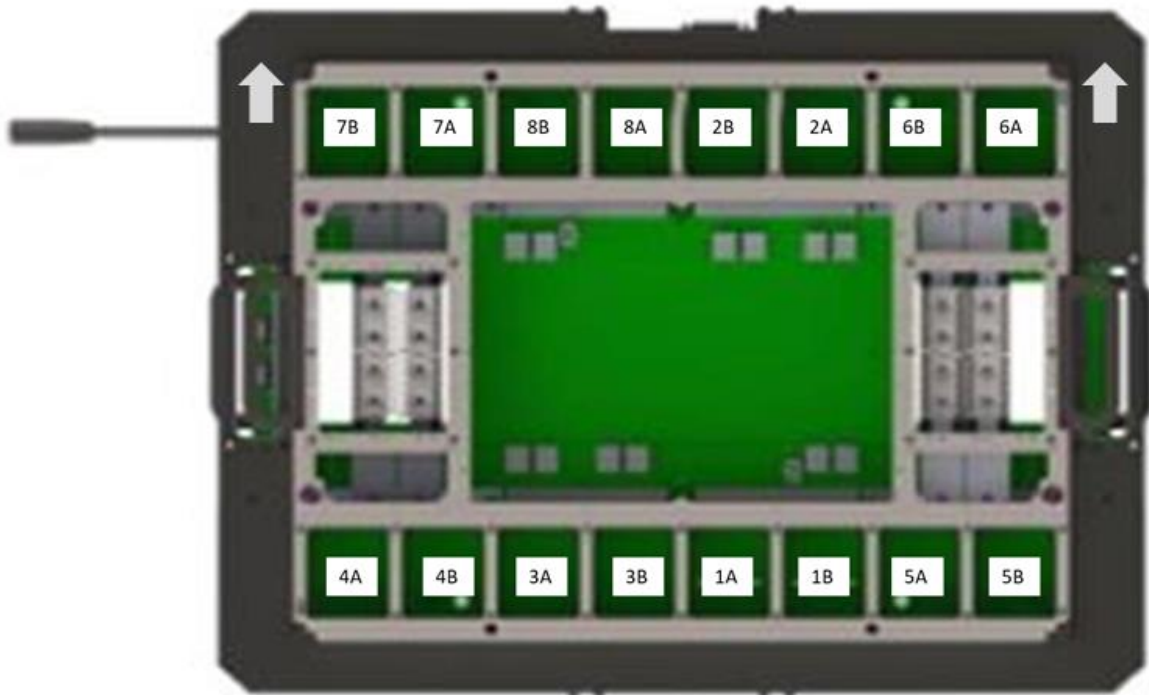

Figure 3: (Top View) AT93000 system
The Family board’s function is to deliver the Advantest V93K testhead resources through the HSIO Card Cage, via the pogo block groups 1A through 8B, up to the DUT loadboard. The 16 HSIO card cage cavities around the perimeter of the AT93000 system are labeled in Figure 3. Any number of these 16 cavities will be populated with a Pogo Block.
Referring to **Figure 3**, Groups 7B,7A,8B,8A,2B,2A,6B,6A are referred to here as the “top-row” (top view). Groups 4A,4B,3A,3B,1A,1B,5A,5B are referred to here as the “bottom-row” (top view).
Referring to **Figure 3**, the [top view] pin coordinates for bottom-row and top-row pogo blocks are shown in **Figure 5**.
- 1A = POGO BLOCK 1A (see **Figure 3** on page 5)